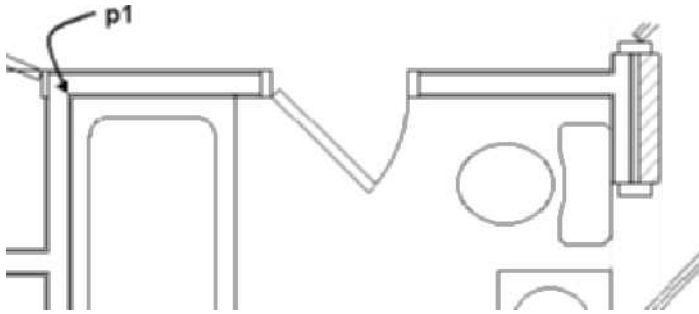

FIGURE 10.41 Insertion point of tub
21. Insert the tub using the **Endpoint** object snap at **p1** as shown in Figure 10.41. Press **ESC** to end the insertion.